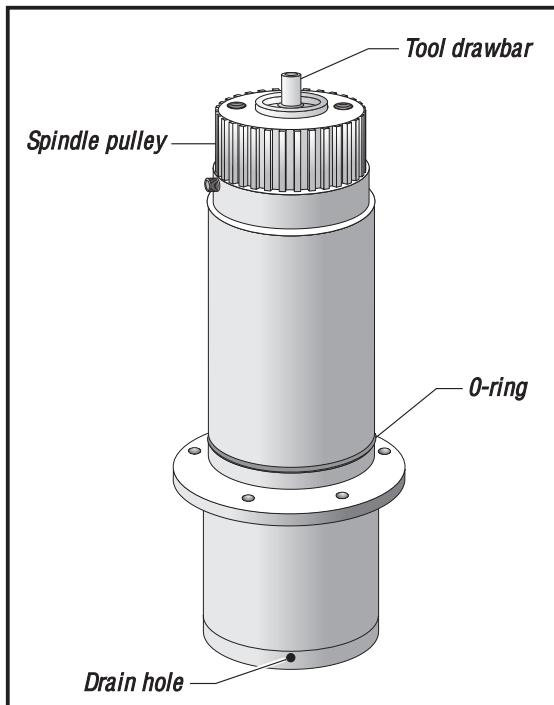

Figure 4-1. Spindle cartridge.
3. Carefully install new spindle into bored sleeve of head casting. Apply grease to the inside of the through bore in the spindle head and the O-ring on the spindle (see Figure 4-1).